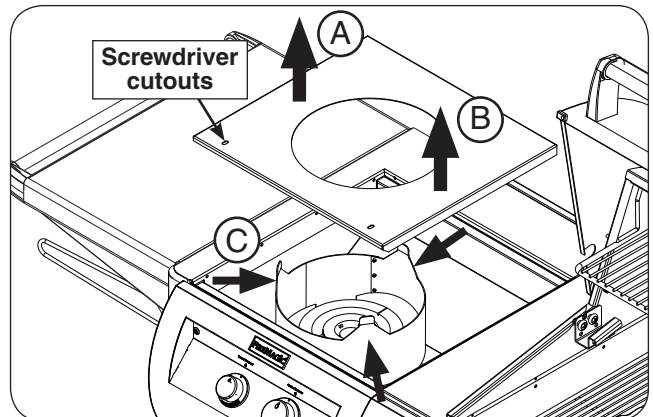

Fig. 39-3 Interior protection plate removal
9. Lift up the interior protection plate from the left side, then lift up from the right side (see Fig. 39-3, A and B).
10. While lifting the plate upward, flex the collimator inward to completely free the protection plate (see Fig. 39-3, C).